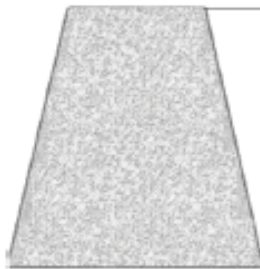

Fig. 43
- i** **NOTE:** When shaping it is advisable to achieve a trapezoidal shape (Fig. 43). A trapezoidal cut corresponds to the natural growth of plants and results in optimal hedge growth, as it will expose more light to the lower end of the hedge.